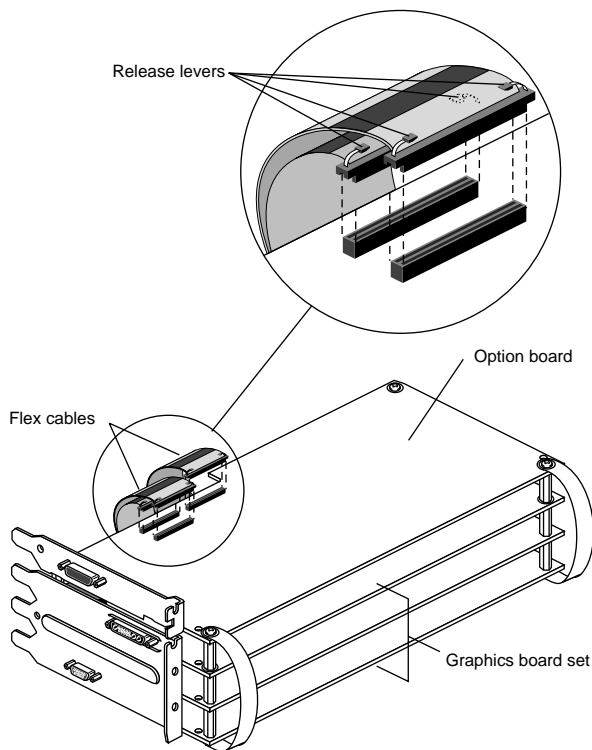

Figure 5-23 Identifying Flex Cables That Connect to an Option Board
2. If you have option boards to install to your new upgrade board set, remove the flex cables that connect your graphics board or board set to an option board above. See Figure 5-23.